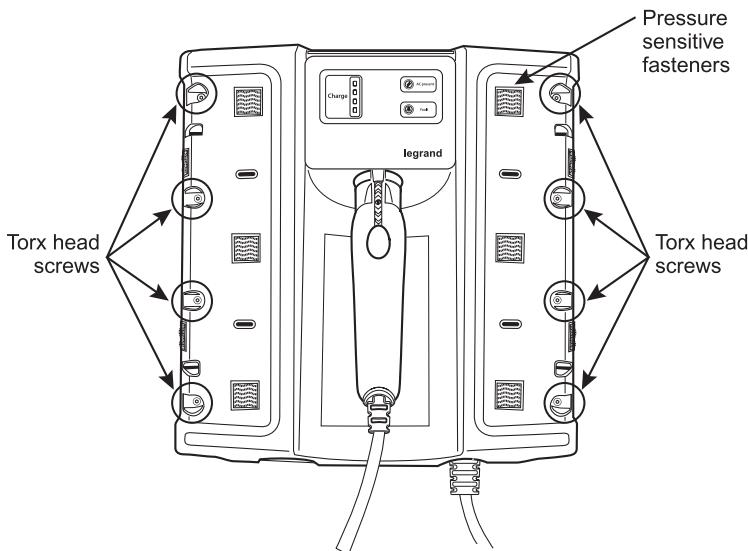

Figure 2
1. Remove charger from packaging and remove decorative panels from front of unit with a firm pulling action. This will expose 8 Torx head screws (Figure 2). (Panels are attached with pressure sensitive fasteners).